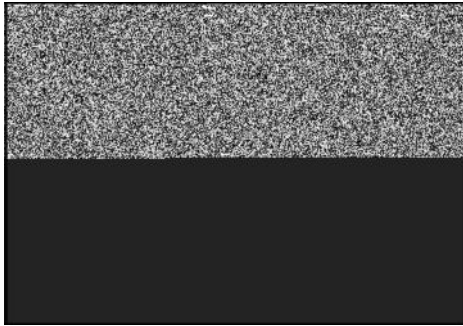

Figure 58
5. Remove the float bowl gasket (**D**, Figure 58) from the carburetor body. Discard the gasket.